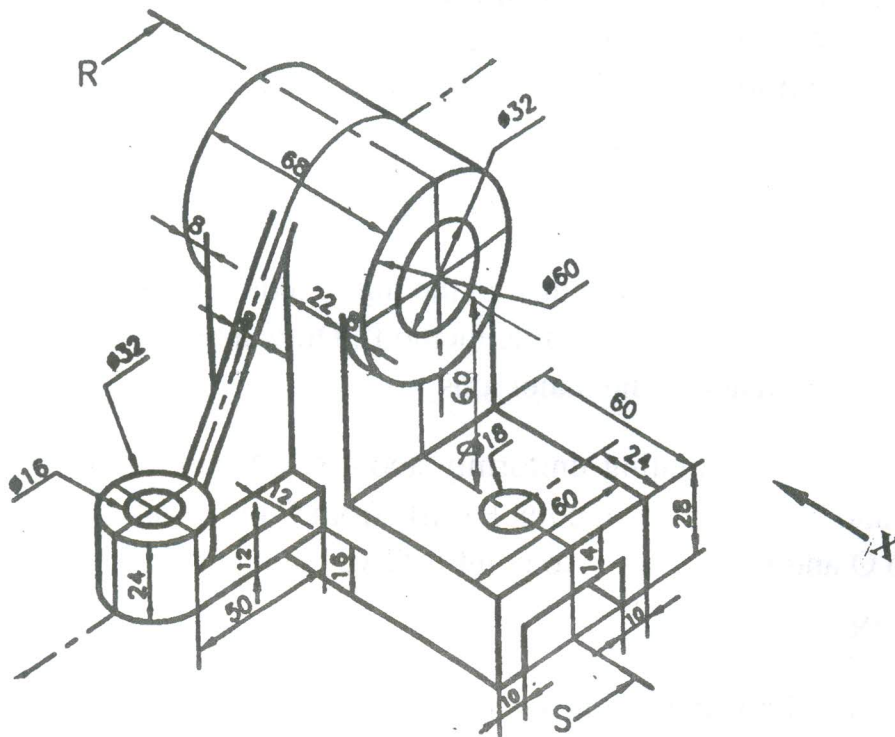

Fig. 1
3. A pictorial view of a machine part is shown in the fig. 1, draw the following views, using First Angle Method of Projection :